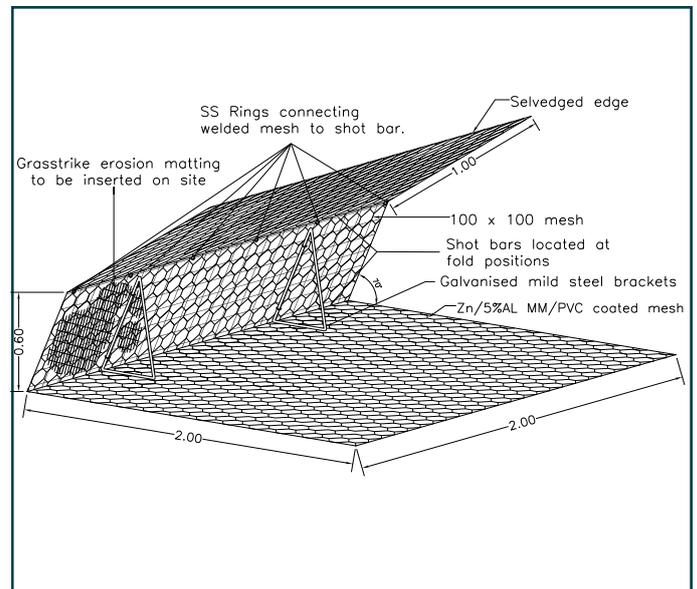
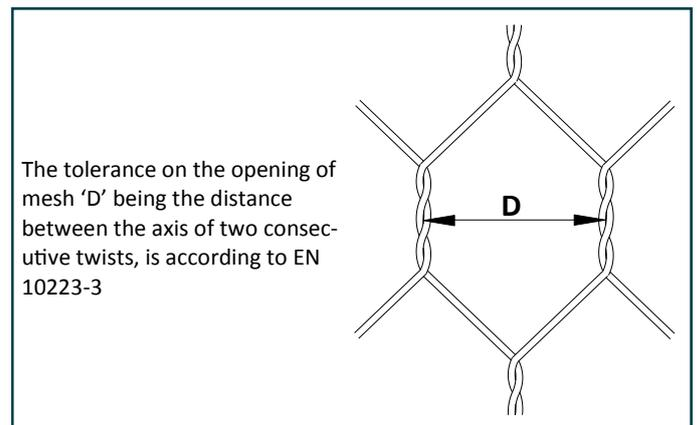

Figure 1
Figure 2
Green Terramesh® is an environmentally friendly modular system used for reinforced soil embankments. Green Terramesh® units are made of double twisted wire, a biodegradable erosion control blanket, a welded mesh panel, and two pre-formed steel brackets (Fig. 1). The Green Terramesh® main unit is fabricated from soft tensile, Galfan and PVC coated steel wire. The facing section of the unit is reinforced with additional PVC coated steel rods inserted through the twists during the manufacturing process (Fig.1). The steel wire mesh used in the Green Terramesh® is according to EN 10223-3 (Fig. 2). The facing retains the backfill and permits a vegetative cover to establish. Attached behind the woven wire mesh is a welded wire mesh panel. Two steel brackets (8mm diameter) are used to form a fixed 70 degree face slope angle. An erosion control blanket made from wool is used to retain the vegetative soil. Green Terramesh® units are supplied in standard lengths, requiring no cuts on site. Dimensions, tolerances, and sizes are shown in Table 1.
- size of units (length x width x height, see Fig.1),